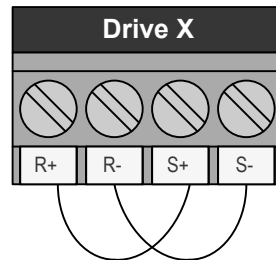

Figure 4.18 Drive Terminal Jumpers
1. Jumper terminals (R+ to S+) and jumper terminals (R- to S-) terminals on each individual drive according to Figure 4.18.